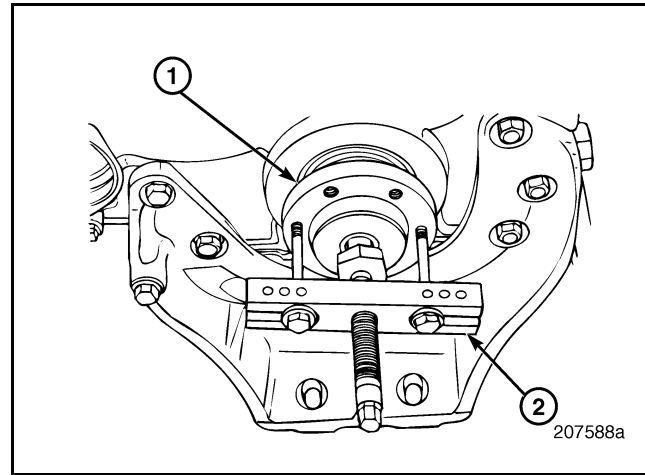

Figure 170 — Crankshaft Hub Removal
4. Using a suitable puller such as J 24420-C, remove the crankshaft hub (Figure 170).